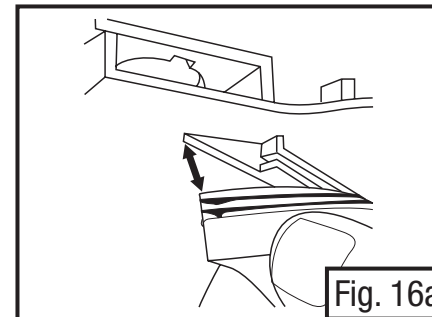
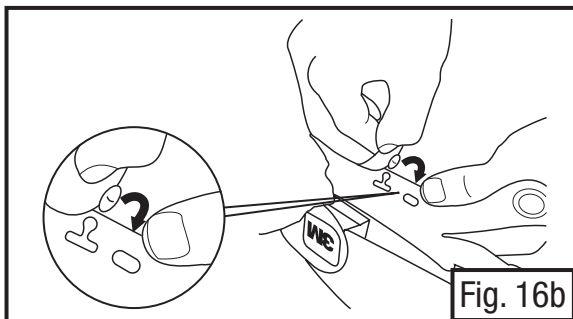

Fig. 16a
Fig. 16b
- To install forehead seal, grasp the black gasket and align with headgear according to Fig. 16a. **Note:** the “shiny” side of the seal should be facing towards you (i.e. outwards) as you install the seal. Press the gasket firmly into the groove in small sections. Both gasket ribs should be fully inserted into the groove. Grasp fabric tab with button and fold over to inside of suspension. Attach forehead seal button to head suspension (Fig. 16b).